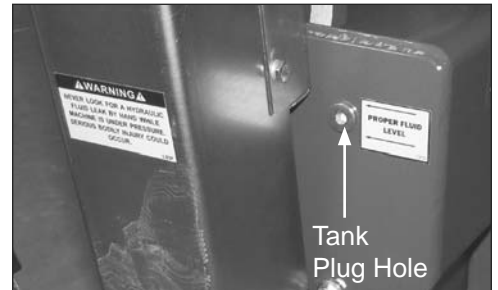

FIG. 9
- Change or add fluid when needed and/or at least once a year under normal conditions. Check fluid level if there has been a leak, damaged or ruptured hose or a loose fitting. Fluid should be level with bottom of tank plug hole (Figure 9).